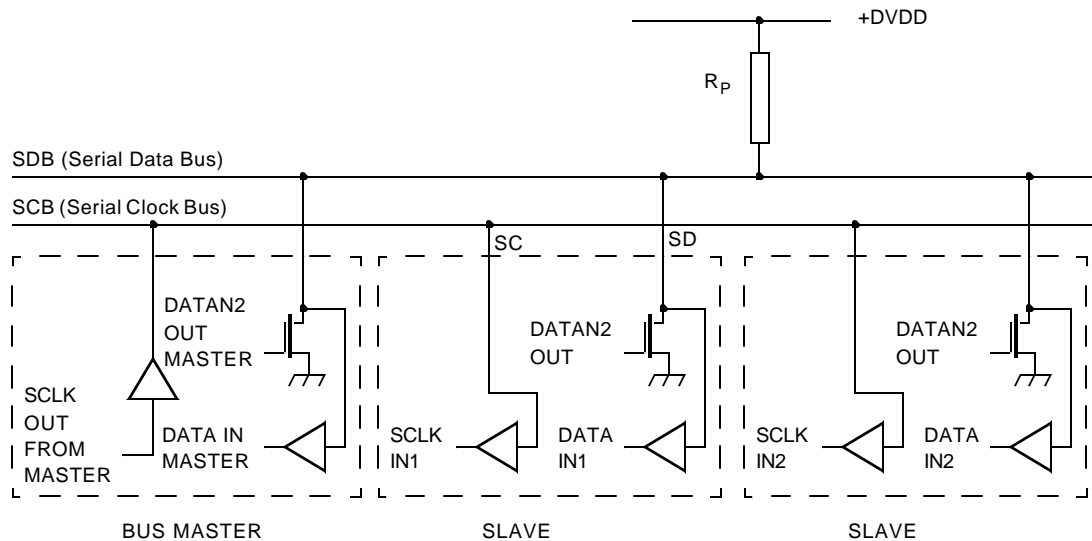

Figure 7: Connection of Devices to the Bus
The CH7301 contains a standard I²C control port, through which the control registers can be written and read. This port is comprised of a two-wire serial interface, pins SD (bidirectional) and SC, which can be connected directly to the SDB and SCB buses as shown in **Figure 7**.
The Serial Clock line (SC) is input only and is driven by the output buffer of the master device (also shown in **Figure 7**). The CH7301 acts as a slave, and generation of clock signals on the bus is always the responsibility of the master device. When the bus is free, both lines are HIGH. The output stages of devices connected to the bus must have an open-drain or open-collector to perform the wired-AND function. Data on the bus can be transferred up to 400 kbit/s.
The electrical specifications of the bus devices' inputs and outputs and the characteristics of the bus lines connected to them are shown in **Figure 7**. A pull-up resistor (R_P) must be connected to a $3.3V \pm 10\%$ supply. The CH7301 is a device with input levels related to DVDD.